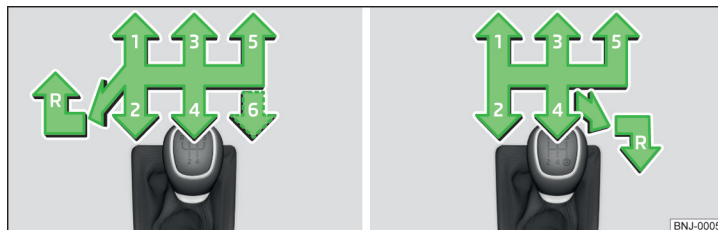

Fig. 126 The shift pattern: Variant 1 (5-speed or 6-speed manual gear-box)/Version 2 (5-speed transmission with the 1.0 litre MPI engine)
On the gear lever, the shift pattern for the individual gear positions is shown » Fig. 126.
- Move the shift lever fully to the left and then forward into the **R** position » Fig. 126.